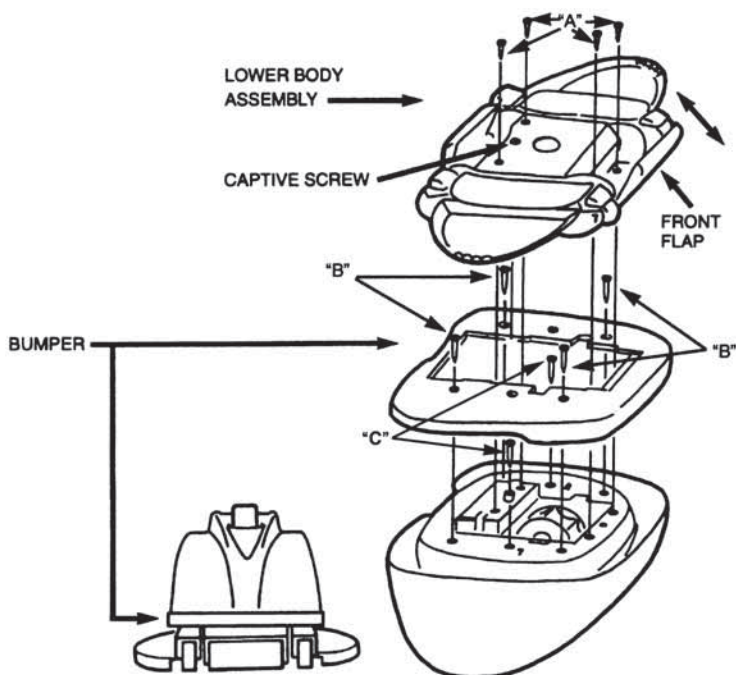

Figure 13
- Locate and loosen the captive screw behind the throat in the center of the bottom (see Figures 13, 14 & 15).
- g) Remove four (4) "A" screws (see Figure 13).
- h) Lift the Lower Body Assembly off the Navigator (see Figure 13).
- i) Remove four (4) "B" screws (see Figure 13).
- k) Remove two (2) "C" screws (see Figure 13).